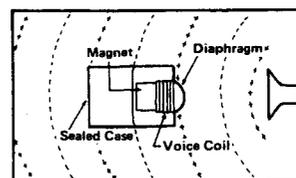

FIGURE 5—Omnidirectional Microphone
**How does an Omnidirectional Microphone Work?** The case of the microphone shown in Figure 5 is totally sealed, so that sound pressure can strike only the front of the diaphragm.